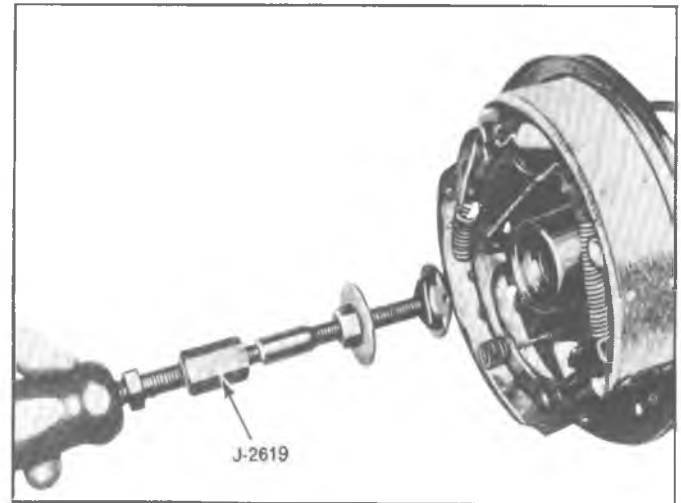

Fig. 53—Wheel Bearing Removal
2. Using J-23689, insert into bore so that tool grasps behind the bearing. See figure 53. Slide washer against outside of seal (or bearing) and turn nut finger tight against washer. Attach Slide Hammer J-2619 and remove bearing and seal.